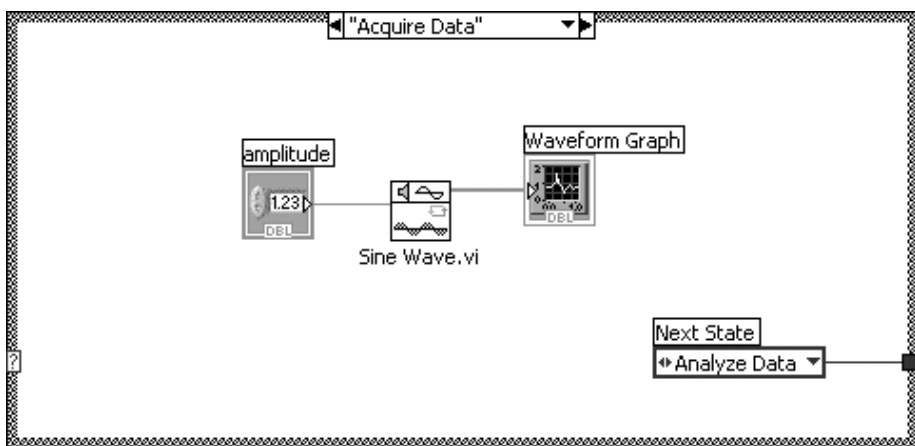

Figure 13.75
12. Add a case to the Case Structure for “Acquire Data,” as shown in Figure 13.75. Note that the state variable that is output from this case is “Analyze